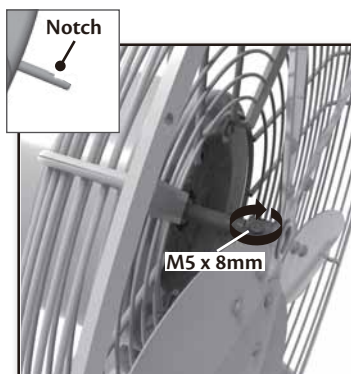

Figure 10
5. Tighten the screw on the blade assembly to secure it to the motor. Make sure that the end of the screw is positioned within the notch on the shaft. Figure 10.